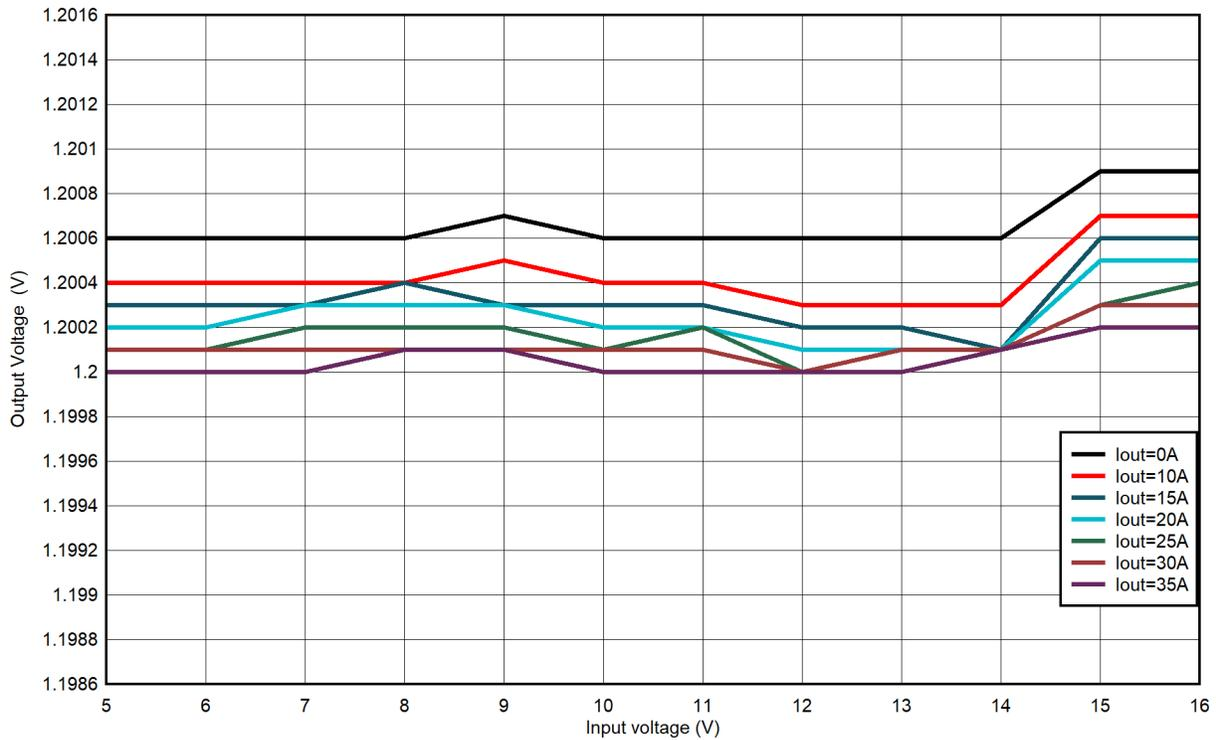

Figure 4-3. VOUT Line Regulation
6. Vary V_{IN} from 5 V to 16 V. V_{OUT} must remain in regulation as defined in Figure 4-3.